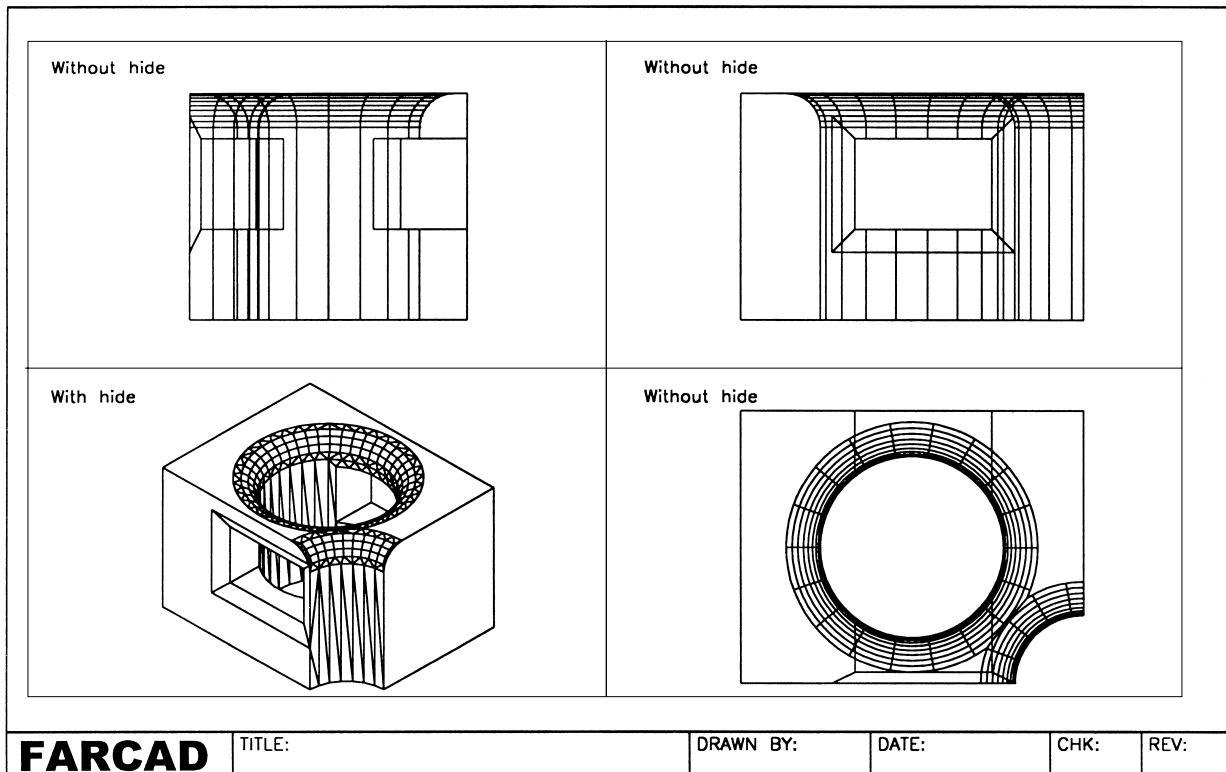

Figure 34.2 Chamfered and filleted composite.
- 9 The completed model is displayed as Fig. 34.2 and can be shaded and the 3D orbit command used.